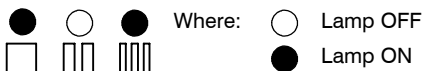

Fig. 8.7
- 12 Press the reset button 7 repeatedly (4 times) until the lamps 10 give the indication as in Fig. 8.7 (gas type mode 1).